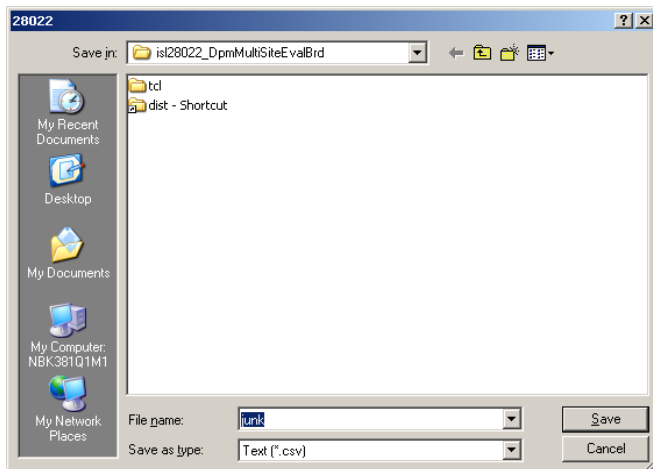

FIGURE 7. FILE NAME AND DIRECTORY SAVE DIALOG BOX
- The DPM software allows the user to store a set number of points of data. Go to the menu bar of the ISL28022 DPM Demo Software window and choose File -> Save Data. Choosing the Save Data option will open a dialog box asking for the filename and directory of the save path. Figure 7 is an illustration of the dialog box.